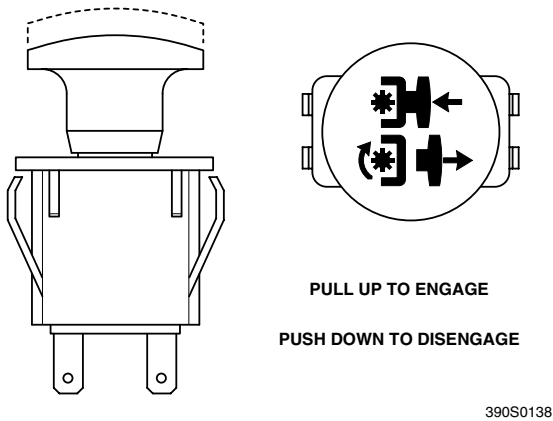

Figure 4-3. Cutter Engage Switch
2. Engage the deck drive by pulling out on the yellow switch, located on the instrument panel, to the engage position. See Figure 4-3.